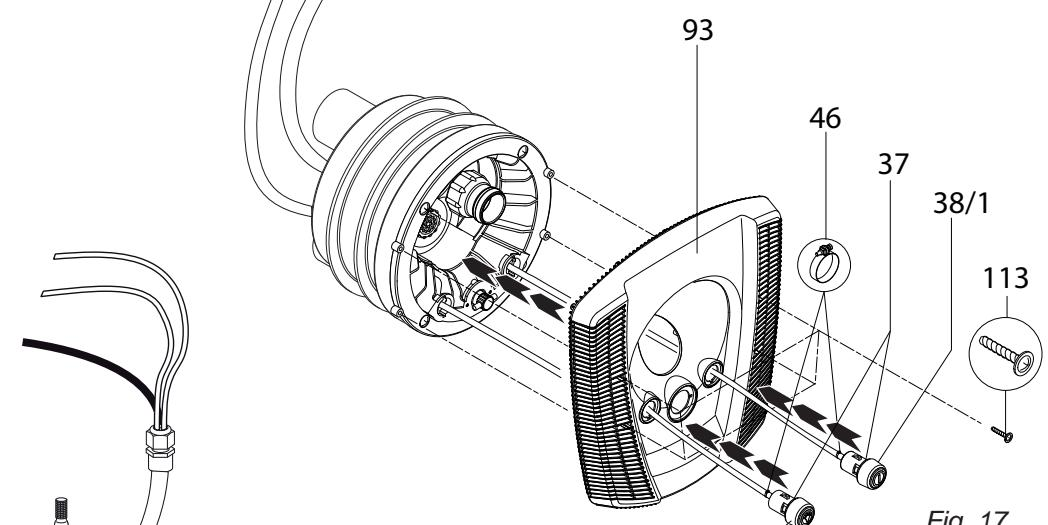

Fig. 17
- 7) Guide the pneumatic hoses through the openings in the trim (93) (light ON-OFF left; pump ON-OFF right) and fasten to the corresponding buttons using the hose clamps (46). (Fig. 17)
- 8) Fasten trim (93) to the nozzle housing using the four screws (113).